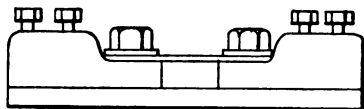

Fig. 40.—Ten to Fifty Ampère Cut-out.
*Detached ten to fifty-ampère Fuses.*—The very simple and effective form of cut-out represented in Fig. 40 is extensively used for single branches carrying any number of lamps. It